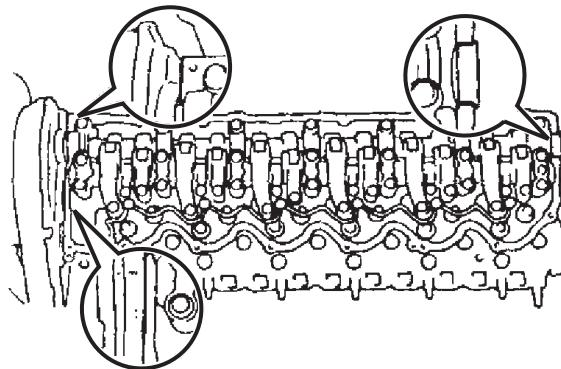

Figure 5-77
5. Apply seal packing to the cylinder head as shown in **Figure 5-77**. (Seal packing: TOYOTA P/N 08826-00080 or equivalent)